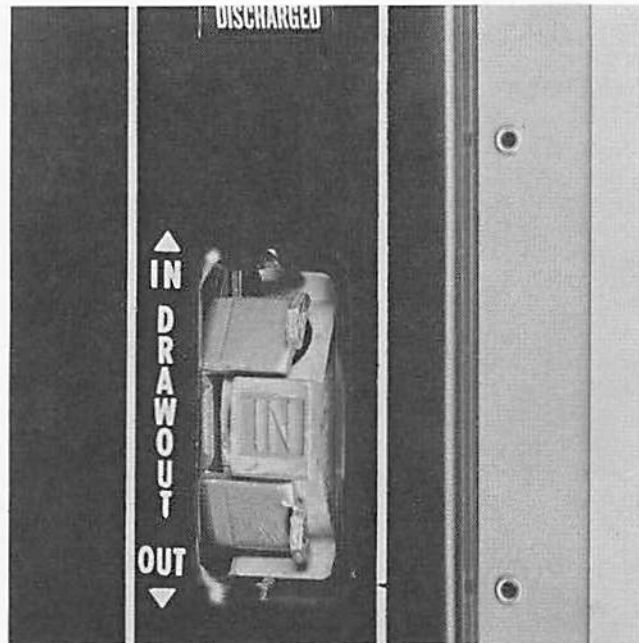

Figure 6
- On a draw-out breaker, charge stored energy mechanism, close breaker and move draw-out interlock plate sideways. Breaker will trip. (Figure 6).